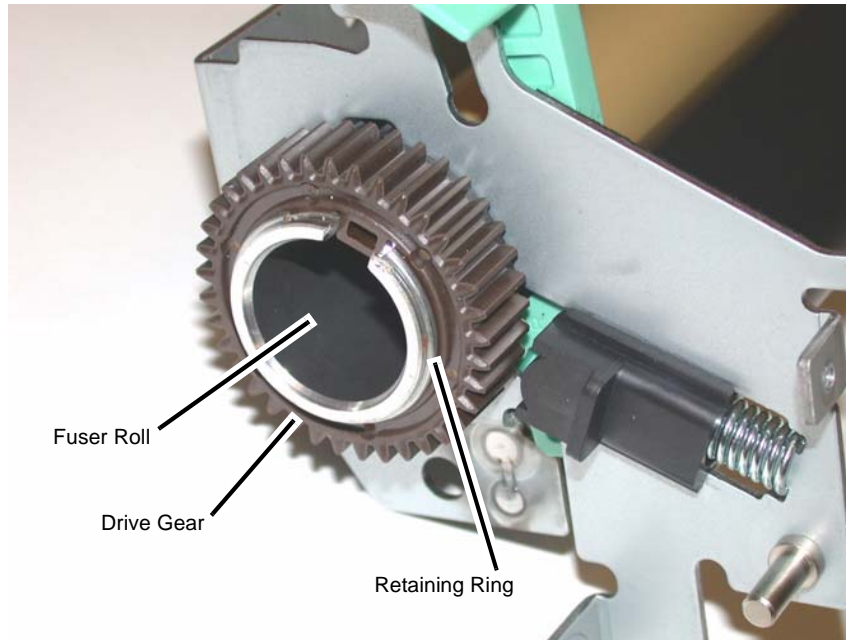

Figure 4 Removing the Retaining Rings and Drive Gear
4. Remove the Fuser Roll Retaining Rings and Drive Gear (Figure 4).